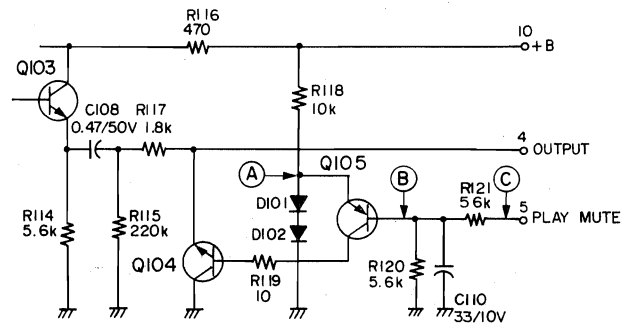

Fig. 3 (On play EQ unit)
Point (A) of Fig. 3 requires a voltage potential of 2 times the forward direction voltage drop of the silicon diodes (D101, D102) of 0.6 V (total 1.3 V) to maintain its state. This is the emitter voltage to stabilize Q105 and opposes the Muting Signal. This signal stabilizes the Muting signal during repeated ON/OFF operations. When point (C) is approx 0 V, the base current of Q105 flows from the emitter through R120 and Q105 goes ON. The collector current of Q105 becomes the base current of Q104 and Q104 also goes ON. The Playback output signal depends on the ratio of the resistance of R117 and the impedance of Q104. (When Q104 is ON, $Z \cong 0$ ohms). At this time Muting is ON. (Output signal is shorted to ground). Then when approx. +24 V is supplied to point (C), the voltage at point (B) (V point B $\cong \frac{24 \text{ V} \times R120}{R120 + R121}$) is applied. Since the voltage potential is high, Q105 goes OFF. Then Q104 also goes OFF and muting is released. C110 opposes the muting signal so that the muting effect change will occur smoothly. Also it serves to make muting OFF occur slowly and muting ON occur quickly.